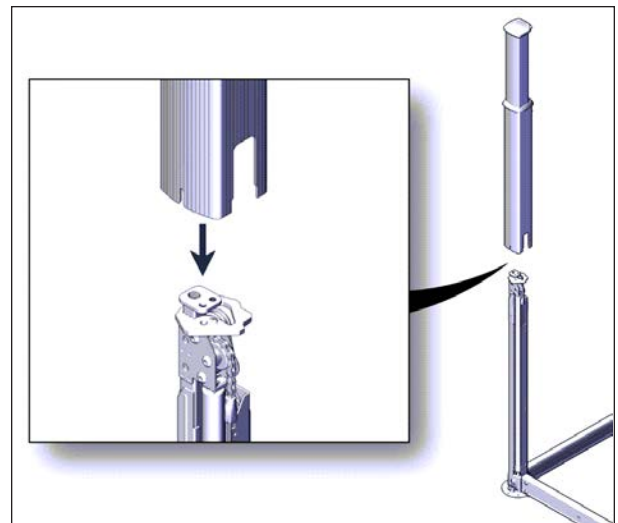

FIGURE 42: SLEEVE INSTALLATION
- Slide the sleeves over all four jacks, see Figure 42.